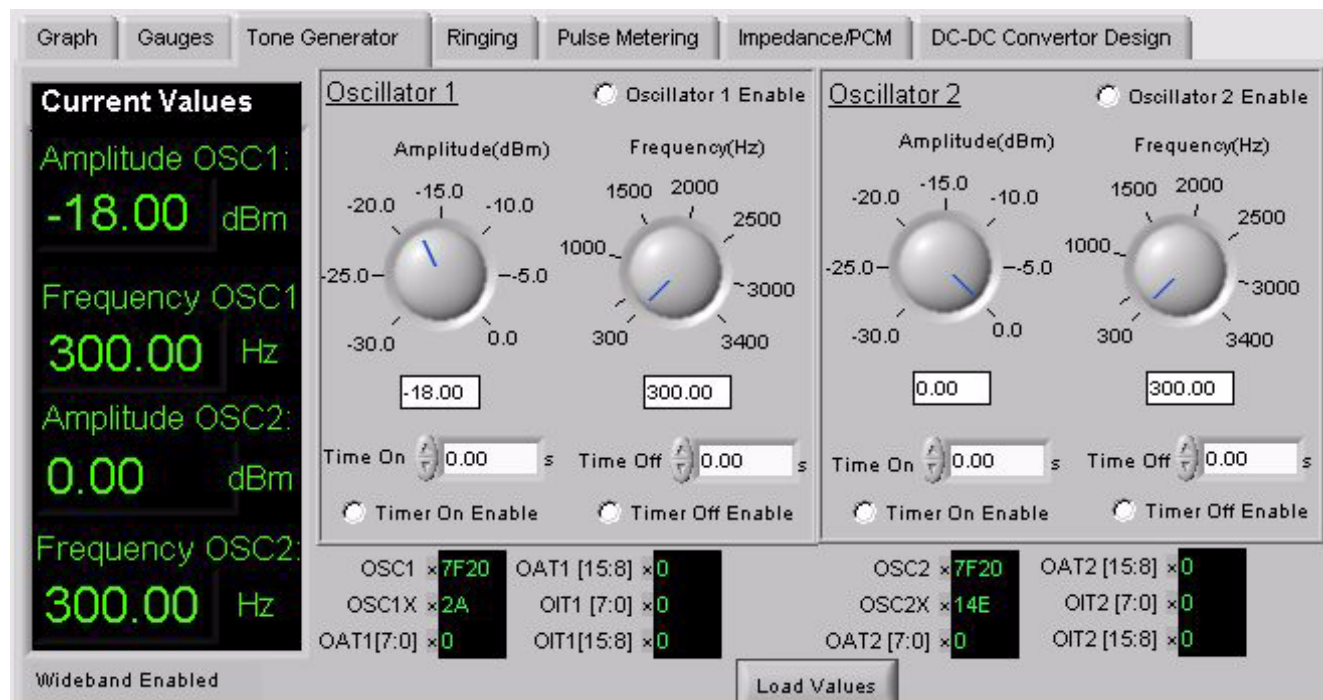

Figure 7. Tone Generator Window
The *Tone Generator* window loads the values needed to generate the specified tones into the appropriate registers. (See Figure 7.) The amplitude and frequency may be selected using the knobs or by typing the value in the box below the knobs. The amplitude is in units of dBm based on a 600 Ω load. Each timer and oscillator can be enabled or disabled using the radio buttons. Pressing *Load Values* causes the program to calculate the necessary register values, display them, update the *Current Values* box, and load the values into the registers.
- Figure 7 on page 5 updated.